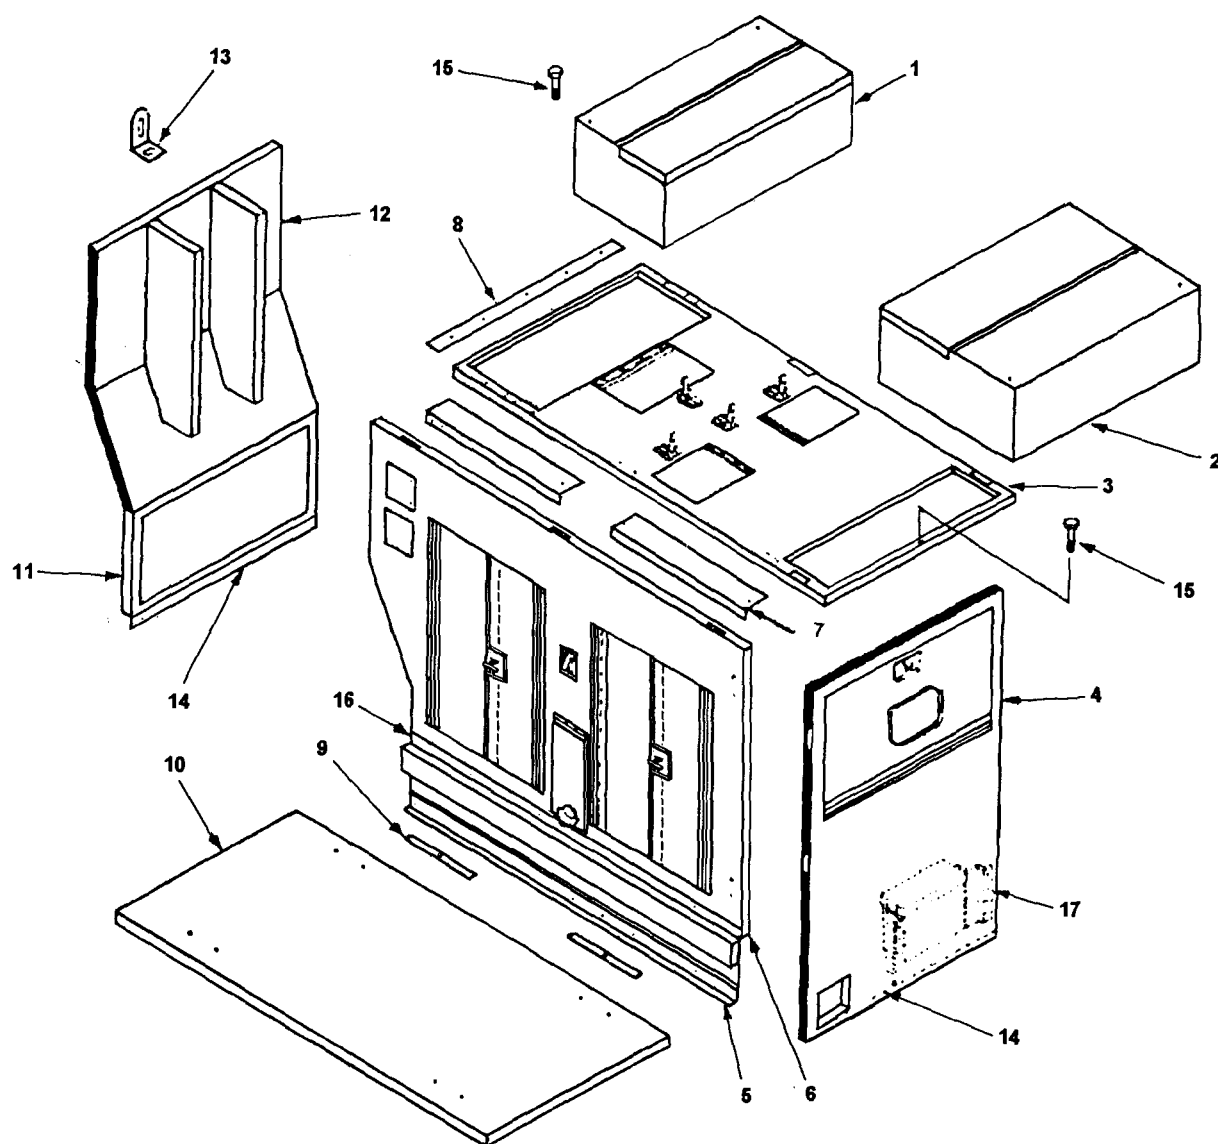

Figure 5-19. Acoustic Suppression Kit Major Components
- (9) Raise side panel skirt 90° and remove screws, capscrews, washers, keepers, and remove upper side panel skirt. (Refer to Figure 5-19). Attach lifting sling, and carefully raise and position side panel assembly on mounting member.
- (10) Install three rubber washers, three flat- washers, and three locking nuts in bottom side panel. Ensure rubber flaps are flat against radiator and are pointed forward. Remove plastic plug and feed oil drain hose through side panel hole.
- (11) Remove lifting sling from side panel.
- (12) Repeat steps (9) thru (11) to install other side panel.
- (13) Position front lower panel assembly on generator set. Ensure top rubber flat is in raised position on radiator shell lip. Remove plastic plugs from rotolocks holes. Align male and female rotolocks and, using hex tool, turn rotolock to secure the front lower panel assembly. (Refer to Figure 5-19.) Install plastic plugs. Ensure mounting zee is below bottom tray assembly.
- (14) Attach lifting strap to front top panel, and raise front top panel assembly on side panels. Ensure alignment pins fit in holes for proper alignment. Remove plastic plugs from rotolockholes. Align male and female rotolocks and using hex tool, turn rotolock to secure the front top panel assembly. Remove lifting strap. (Refer to Figure 5-19.) Install plastic plugs.
- (15) Position exhaust extension on engine exhaust. Install and tighten damp to secure the exhaust extension. Exhaust extension opening must be pointed down and must not interfere with other components later.
- (16) Attach lifting strap on rear panel assembly, and position rear panel assembly on generator set. Ensure alignment pins are in holes for proper alignment. Remove plastic plugs from rotolock holes. Align male and female rotolocks and, using hex tool, turn rotolocks to secure the rear panel assembly. Remove lifting strap. (Refer to Figure 5-19.) Install plastic plugs. Ensure mounting zee is below bottom tray assembly.
- (17) Attach lifting sling to roof panel assembly, and position on generator set. Ensure alignment pins are in holes. It may be necessary to use C-clamps to pull the side panels into position using the lifting clevis as an anchor for the C-clamp. Remove plastic plugs from rotolock holes. Align male and female rotolocks and, using hex tool, turn rotolocks to secure the roof panel assembly. Remove the lifting sling. (Refer to Figure 5-19.) Install plastic plugs. Install two socket head capscrews to secure roof panel assembly.
- (18) Slide sealing angle into position, and tighten capscrews.
- (19) Tighten capscrews securing mounting members.
- (20) Attach lifting sling to inlet turn assembly, and position on roof assembly. Remove the lifting sling. Remove plastic plugs from rotolock holes. Align male and female rotolocks and, using hex tool, turn rotolocks to secure the inlet turn assembly. (Refer to Figure 5-19.) Install plastic plugs.
- (21) Attach lifting sling to discharge turn assembly, and position on roof assembly. Remove the lifting sling. Remove plastic plugs from rotolock holes. Align male and female rotolocks and using hex tool, turn rotolocks to secure the discharge turn assembly. (Refer to figure 5-19.) Install plastic plugs.